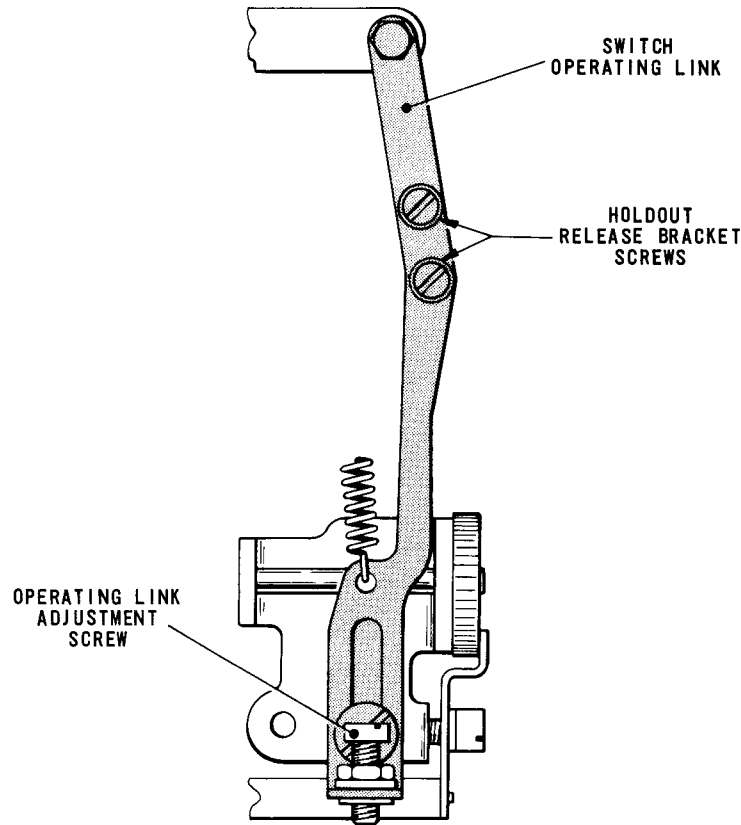

Fig. 4.71 STARTER SWITCH TIMING MECHANISM
- 89.1 Check that the holdout release bracket on the switch operating link, Fig.4.71, is in the correct position for the operating speed of the machine, i.e. fully raised for 50 baud or fully lowered for 75 baud operation.
- 89.4 If this is not so, slacken the locknut of the operating link adjustment screw, Fig.4.71, and adjust the screw until the required condition is satisfied. Tighten the adjustment screw locknut.